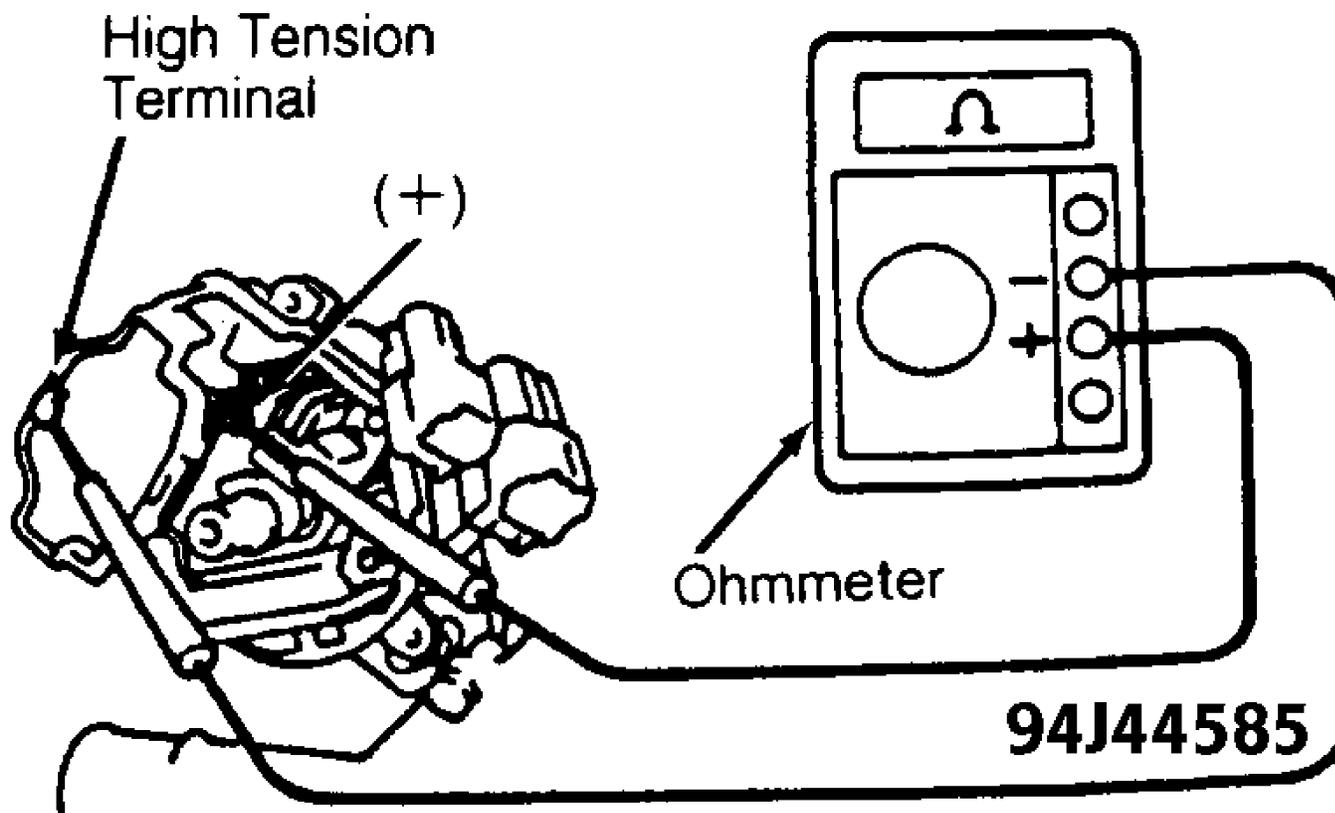

Fig. 6: Checking Ignition Coil Secondary Resistance (1.8L)
2) Check secondary resistance between ignition coil positive (+) terminal and high tension terminal (coil wire tower). See Figs. 6 and 7. Replace ignition coil if resistance is not within specification. See appropriate IGNITION COIL RESISTANCE table.